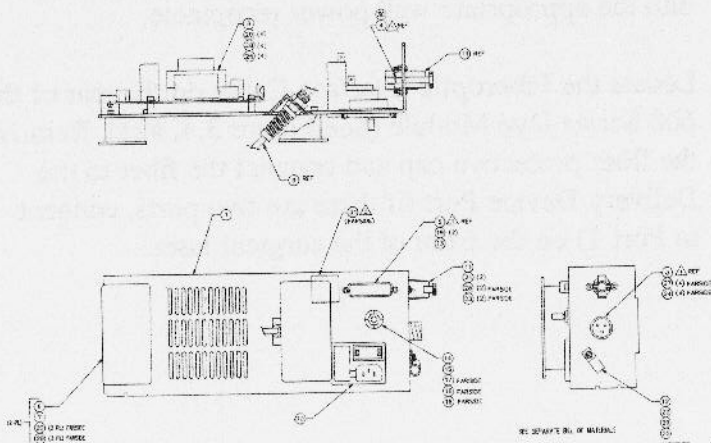

Figure 3.4 Rear View - 600 Series Dye Module
The Fiberoptic Interface Cable optically connects the 600 Series Dye Module to the surgical laser to transfer the 532 nm wavelength light used as a pump source. It is permanently connected to the 600 Series Dye Module, and connects to the Delivery Device Port of the KTP/532 Surgical Laser System during setup (For those systems with two Delivery Device Ports, the Fiberoptic Interface Cable connects to Port 1). When disconnected from the surgical laser, the Fiberoptic Interface Cable can be coiled onto the special bracket provided for storage. (See Figure 3.4, #26).
7. Verify that the Dye Module input power voltage is set for 115 or 230 volts, depending upon configuration (Back Panel Input Power - see Figure 3.4, #23). If voltage displayed is not correct, refer to Section 5, Electronics to reset input power. Plug the Dye Module into the appropriate wall power receptacle.
8. Locate the Fiberoptic Interface Cable on the rear of the 600 Series Dye Module (See Figure 3.4, #21). Remove the fiber protective cap and connect the fiber to the Delivery Device Port (if there are two ports, connect to Port 1) on the front of the surgical laser.